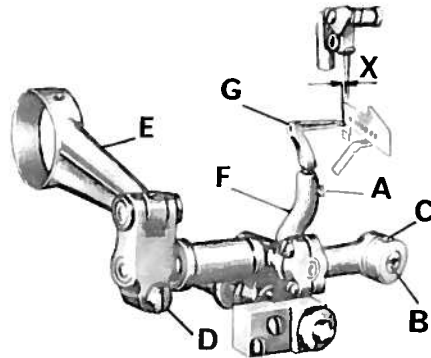

fig.11
- S. 1708.00 for all operations of chain stitch (fig. 11/12)
7. Chain stitch looper timing (fig. 11).